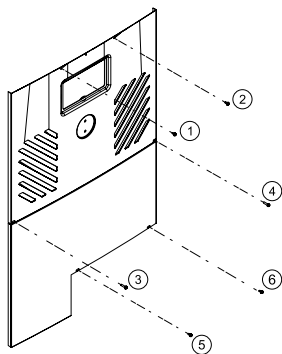

Figure 125. Sheet Metal Screws to Remove Control Panel
2. To access the heater's front control cover panel, use a 1/4" hex head screwdriver to unscrew the six (6) screws. See Figure 125.